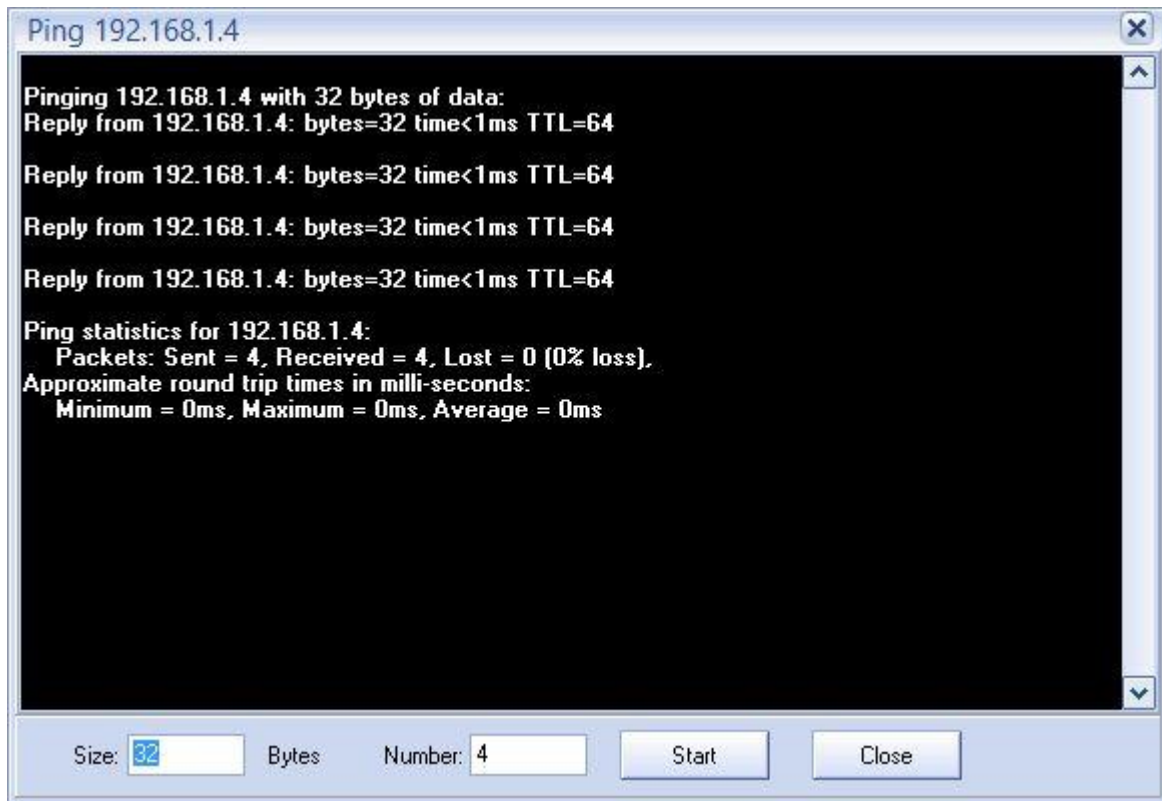

FIGURE 4.6 – PING TEST
7) You can do a PING test to see if the DEVICE is responsive. (SEE FIGURE 4.6)